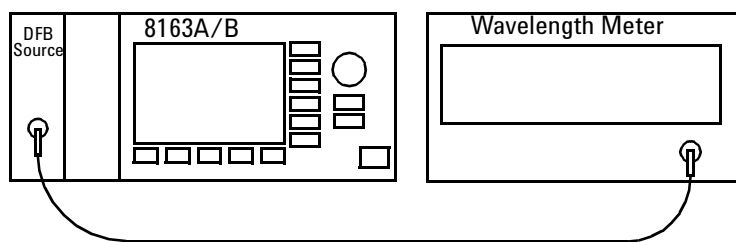

Figure 5 Wavelength Accuracy Setup
- 1 Set up your equipment as displayed in Figure 5 .